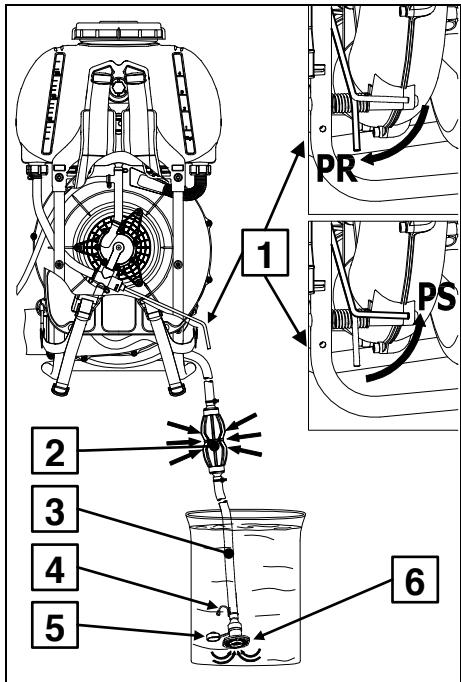

Figure 6 Booster and filling pump
The pump PSR performs the function of boosting and filling of the liquid tank without removing the device from the shoulders. To select one of the functions of the pump, move the lever as shown in Figure 6 pos.1.
**Operating as a filling pump:** in order to fill the liquid tank with the pump, see Figure 6 on this page and proceed as follows:
- Remove the black cap (pos.5) from the suction pipe (pos.3).
- To fill in the pump, with engine at idle, dip the suction pipe (pos.3) into the liquid and press roughly 10 times the pump (pos.2).
- Check, against the light, when the tank is full and disengage the filling function by moving the lever (pos.1) into the position **PS**.
- Close the suction pipe with the black cap (pos.5).
- Use the hanger (pos.4) to hang the suction pipe.
**Operating as a booster pump:** Verify the the lever (Figure 6 position 1) is in **PS** position. Refer to the following table that provides the data of the liquids flow rate in the 9 positions of the spreader (The mist blower MB90 / AT900 User manual).